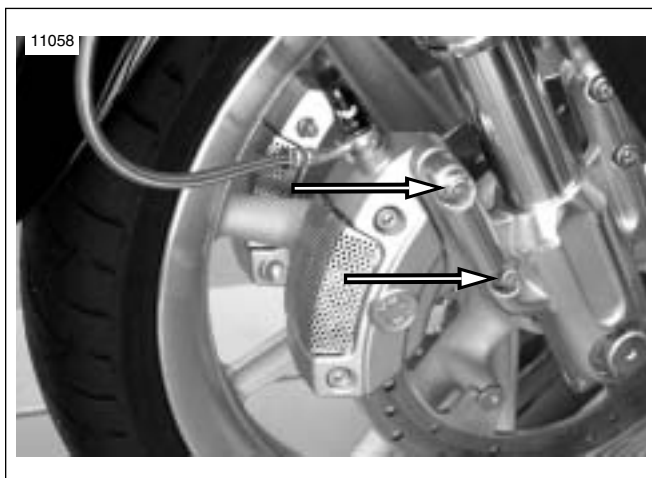

Figure 2-76. Caliper Mounting Bolts (typical)
3. See Figure 2-76. Remove both upper and lower mounting bolts to remove brake caliper assembly.